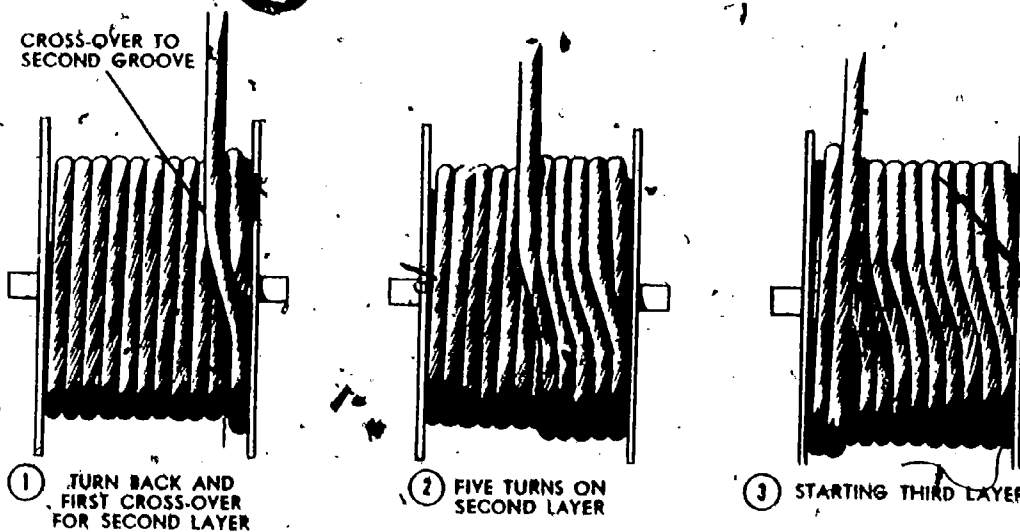

Fig 7-8. Winding wire-rope layers on drum.
d. Winding. Turns of wire should not overlap when wound on a drum, but should be wrapped in smooth layers. Overlapping will result in binding, causing snatches on the line when the rope unwinds. The rope should be started against the flange and wound close together. Tension should be kept on the rope during winding and a wooden stick used to force the turns closer together. Succeeding layers are wound so that the turns lie in the grooves formed by preceding layers (fig 7-8).